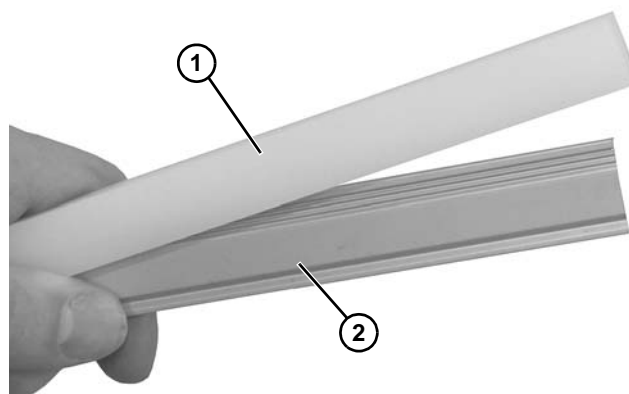

Figure 87
4. Attach slide rail (**Figure 87, item 1**) to guiding (**Figure 87, item 2**).